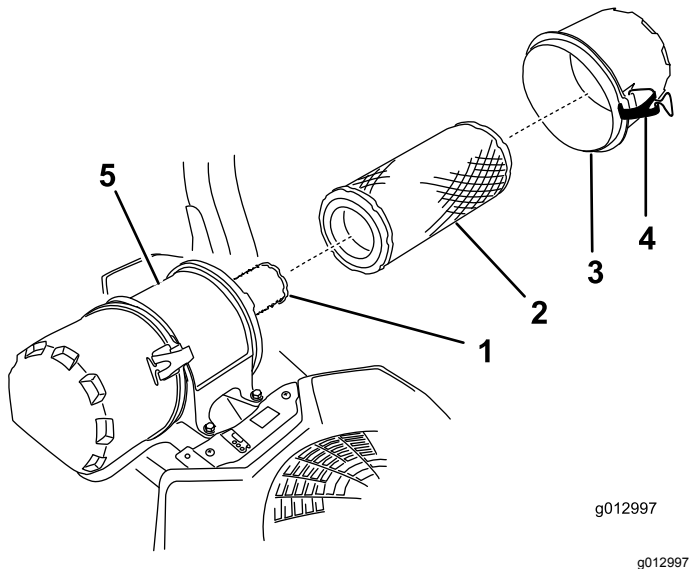

Figure 49
6. Release the latches on the air cleaner and pull the air-cleaner cover off the air-cleaner body (Figure 49).
- Gently slide the primary filter out of the air-cleaner body (Figure 49).
- If the inner filter is being replaced, carefully slide it into the filter body (Figure 49).
- Carefully slide the primary filter over the inner filter (Figure 49).
- Install the air-cleaner cover and secure the latches (Figure 49).